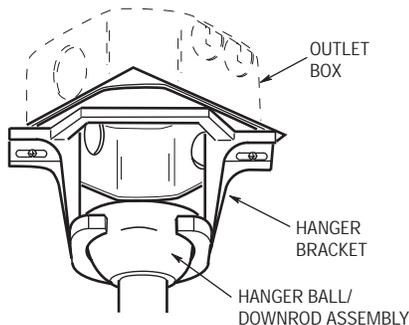

Figure 10
- 2. Carefully lift the fan and seat the hanger ball/downrod assembly on the hanger bracket that was just attached to the outlet box (Figure 10). Be sure the groove in the ball is lined up with tab on the hanger bracket (Figure 9).